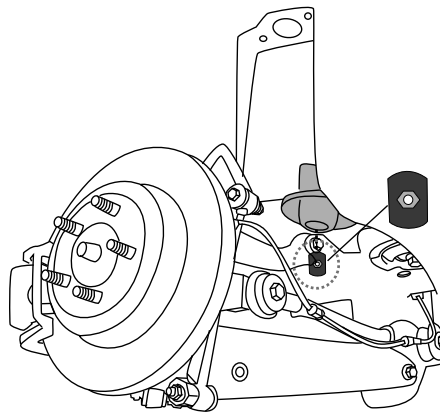

Fig. 4
1. Insert the clamp plate (G) into upper spring perch with the nut facing upward (Fig. 4).